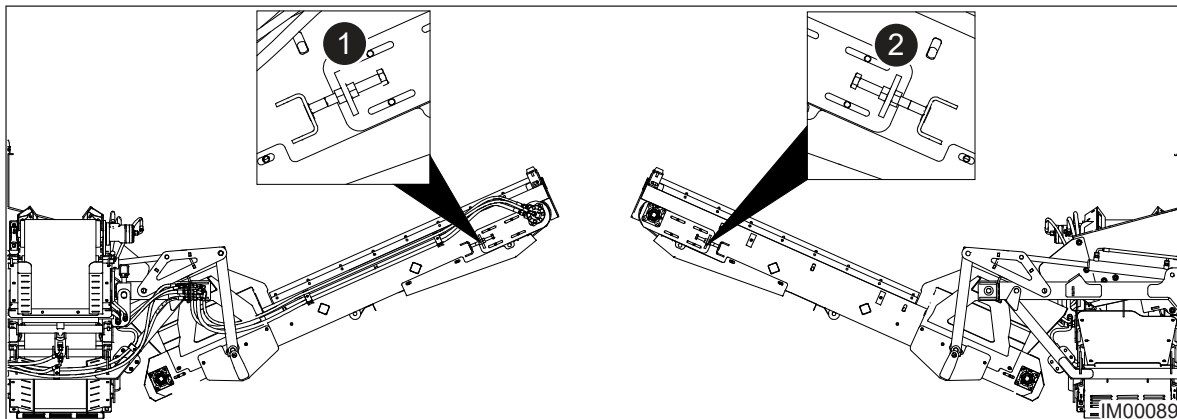

Fig: 11.28 - Belt Adjusters
4. Tighten the belt by rotating the adjusters clockwise and evenly, on both sides of the conveyor (Items 1 & 2, Fig: 11.28). It is important to turn each adjuster the same rotation, otherwise, the belt will track off alignment when put into operation. Do not over tighten the belt.
- Use a spanner to rotate the right side adjuster (Item 1, Fig: 11.28) a 1/4 turn (clockwise), then observe the belt alignment. Repeat this step until alignment is satisfactory.
- If the belt was under too much tension, rotate the left side adjuster (Item 2, Fig: 11.28) a 1/4 turn (counter-clockwise), then observe the belt alignment. Repeat this step until alignment is satisfactory.
- Use a spanner to rotate the left side adjuster (Item 2, Fig: 11.28) a 1/4 turn (clockwise) then observe the belt alignment. Repeat this step until alignment is satisfactory.
- Or if the belt would be under too much tension, rotate the right side adjuster (Item 1, Fig: 11.28) - one turn (counter clockwise) then observe the belt alignment. Repeat this step until alignment is satisfactory.
(3) Collection Conveyor**(a) Belt Tensioning****NOTICE**